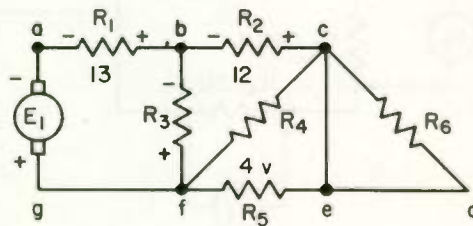

Fig. 22
8. The value of the supply voltage in Fig. 22 is _____ volts.
9. What is the voltage across R_3 in Fig. 22?